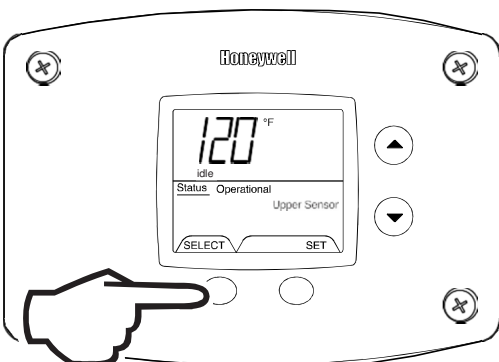

Fig. 32
- 2b. Water Temperature - Upper Sensor (Displays if there is an upper sensor – some models) (Fig. 32).